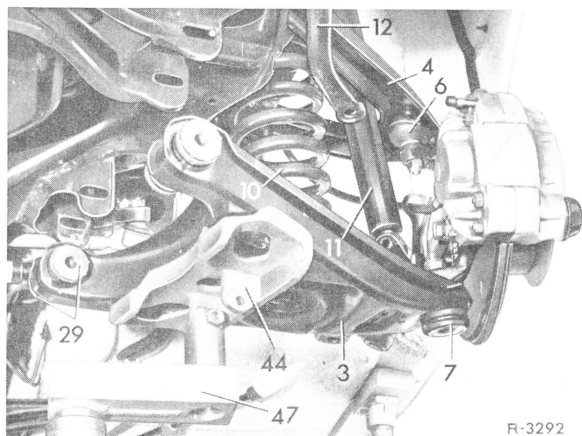

Fig. 3
4 Support lower control arm with pit lift, attached intermediate angle piece (47) and cradle (44). Knock out cam bolt (30) and carefully lower pit lift (Fig. 3).
Note: The cradle (44) has two supporting points for the receiving bolt. Fig. 3 shows the use of the device on left end of vehicle; change bolt around for right end.
8 Carefully raise lower control arm with pit lift while making sure that the rubber mounts (29) are not damaged by the eyes on the front axle carrier (Fig. 3).